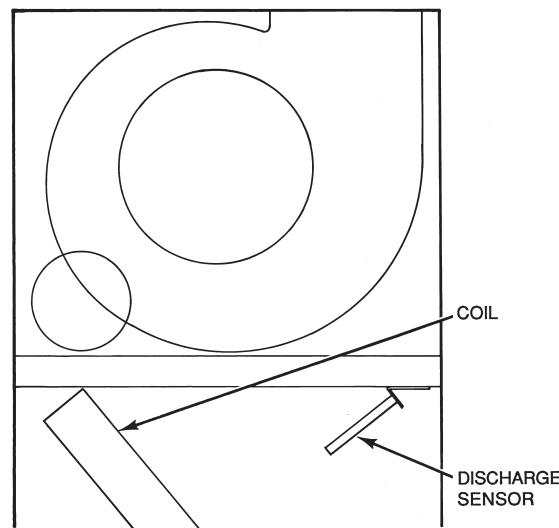

Fig. 5 — Installing SAT Sensor
2. Mount the supply-air temperature sensor inside the air handler on the sensor mounting angle. Use the holes in the sensor base as guides to fasten the sensor to the mounting angle with field-supplied self-tapping screws, or drill holes into the mounting angle and fasten sensor in place with field-supplied sheet metal screws ($\frac{3}{4}$ -in. maximum length). Locate the sensor in the middle of the mounting angle. See Fig. 5.